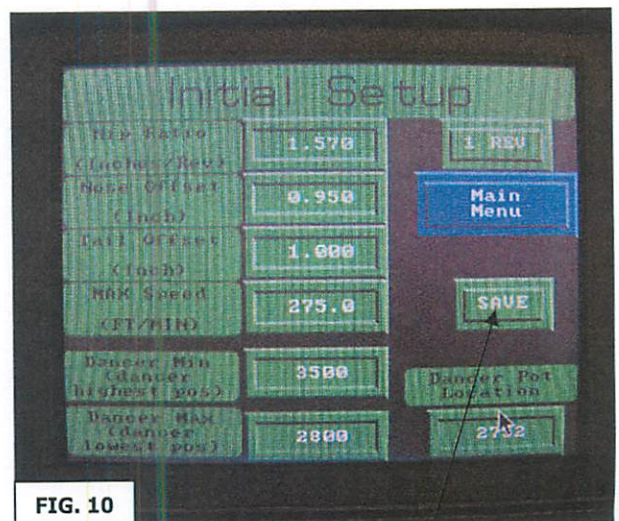

FIG. 10
11) **PRESS SAVE BUTTON. SEE (FIG. 10)**